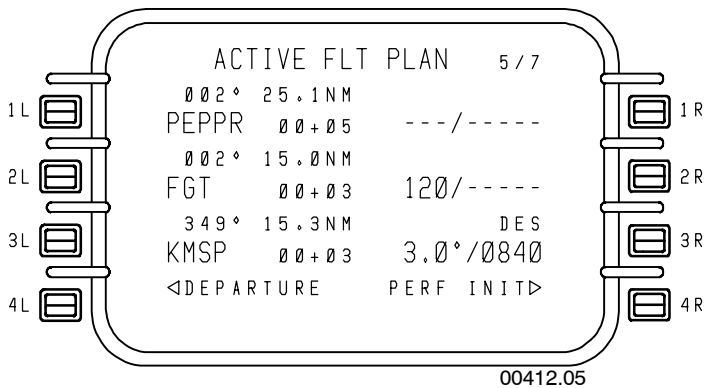

Figure 7-12
- SPEED – Speed is displayed except when an angle is entered. This is shown in Figure 7-12. The FMS calculates and displays a predicted speed for each waypoint. Speed can be entered in either CAS or MACH. If the waypoint is in a path descent, the angle is displayed.